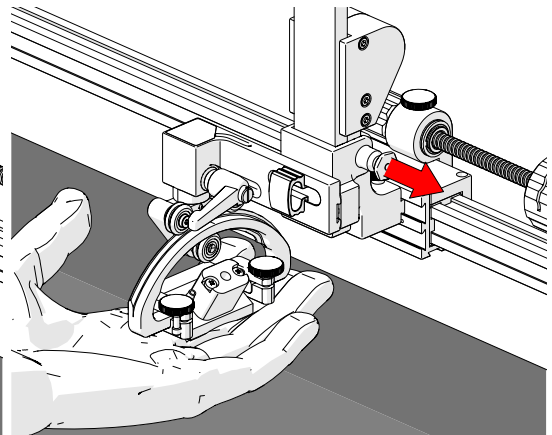
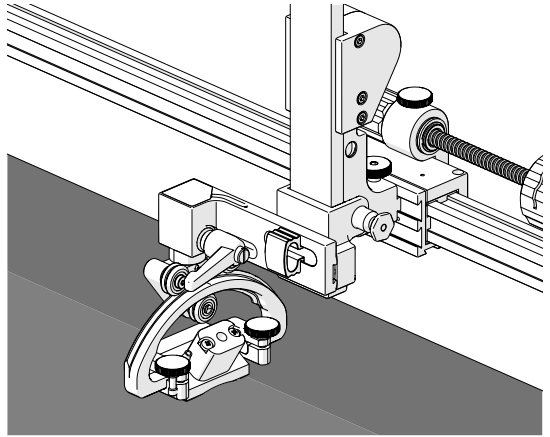

Fig. 50 - Pull latch pin
Fig. 51 - Lower probe to inspection surface
2. Pull the latch pin (Fig. 50) and slowly lower the probe holder to the scan surface (Fig. 51).